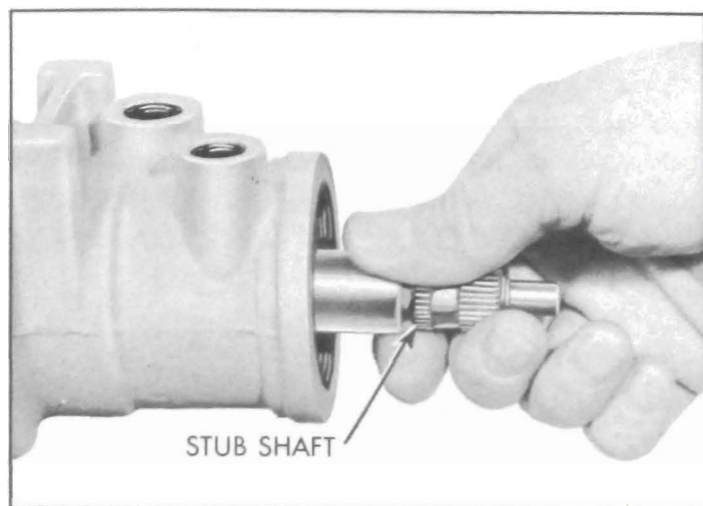

Figure 8-29—Removing Rotary Valve Assembly
5. Remove rotary valve assembly from gear by grasping stub shaft and pulling out. See Figure 8-29.